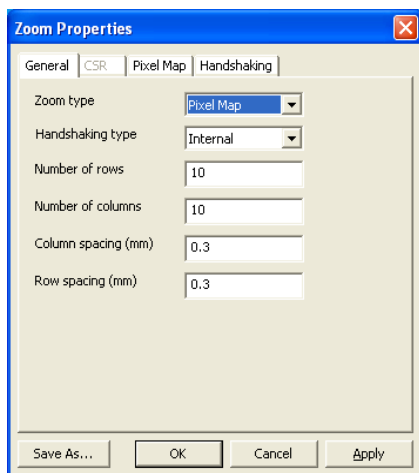

Figure 7.12.7 Pixel Map General Settings
- a. Choose the zoom type in the **General** tab (see Figure 7.12.7):